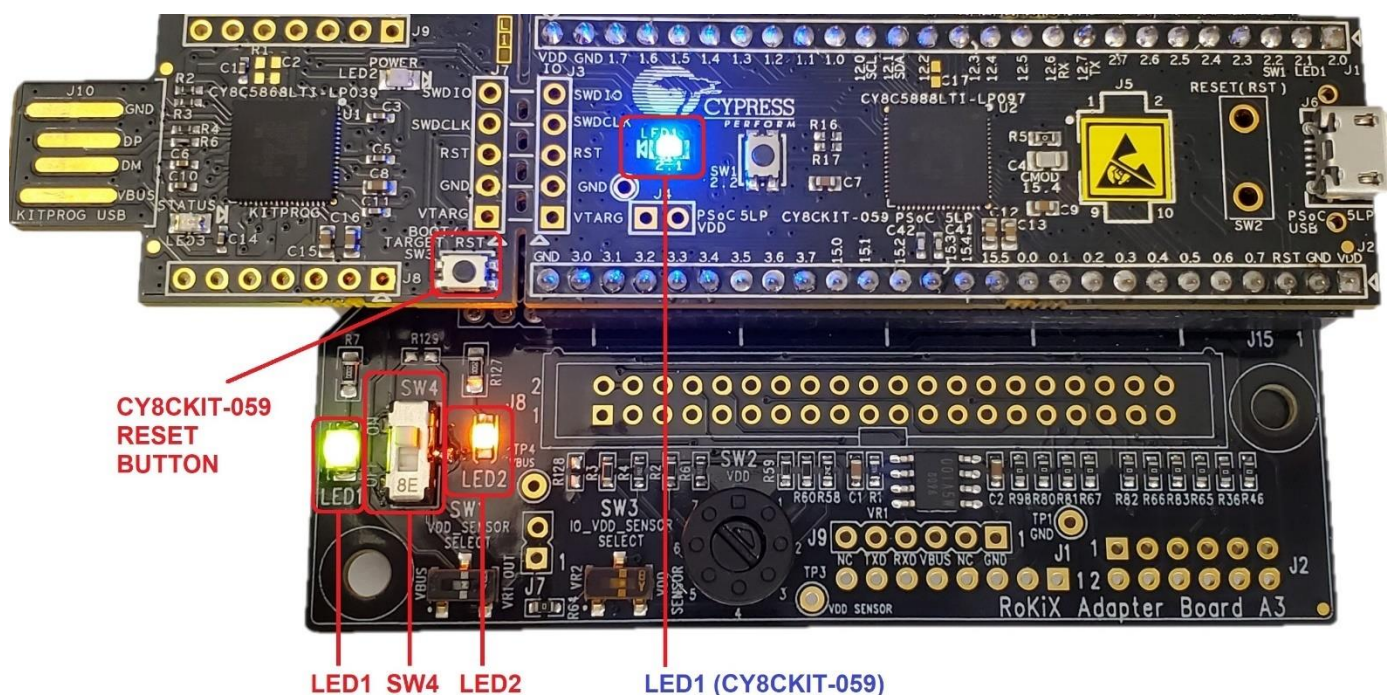

Figure 75. RoKiX Development Kit status: LED1, SW4, LED2, LED1 (CY8CKIT-059) must be ON
1. The **blue** LED1 (CY8CKIT-059) should be constantly ON and not blinking (Figure 75)
2. The **green** LED1 (Figure 75).
1. The **orange** LED2 should be ON (Figure 75). If **orange** LED2 is OFF, check the following:
- Check if the SW4 is in the ON position (i.e., moved up as seen from above) (Figure 75).
- Press CY8CKIT-059 Reset Button (Figure 75). Wait few seconds. If status changes to “Connected”, press “Streaming” button.